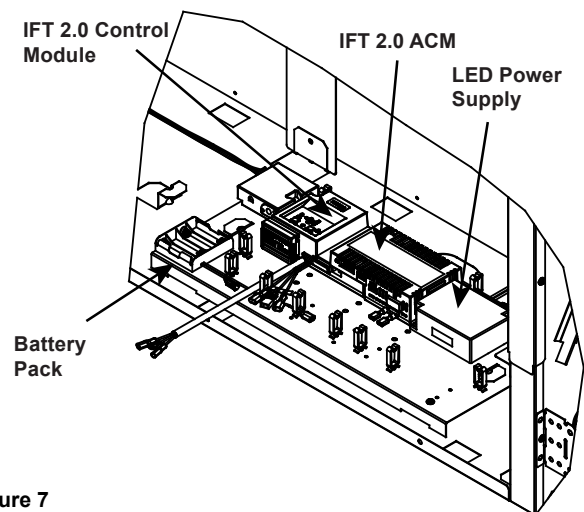

Figure 7
9. Place the IFT 2.0 ACM and LED power supply on the component tray. See Figure 7.